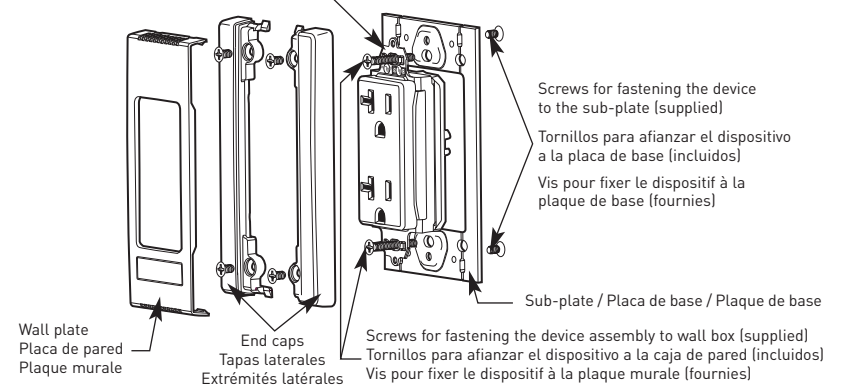

Figure 2 / Figura 2 / Figure 2
- Attach the device to the sub-plate with the two screws provided (see Figure 2).
- Wire the device per the manufacturers instructions and install the assembly in a single gang wall box with the screws provided (see Figure 2).
- Remove the plaster ears from the device (see Figure 1) and attach the device to the sub-plate, with the screws provided. (See Figure 2).